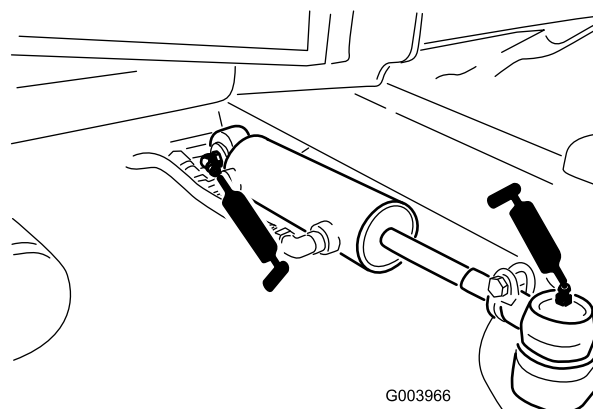

Figure 50
- Steering-cylinder ball joints (2) (Figure 50)